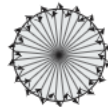

FIG. 22
4. Walk from outside across to the detection pattern until LED turns on for approx. 2secs indicating the movement has been detected (See FIG. 22).